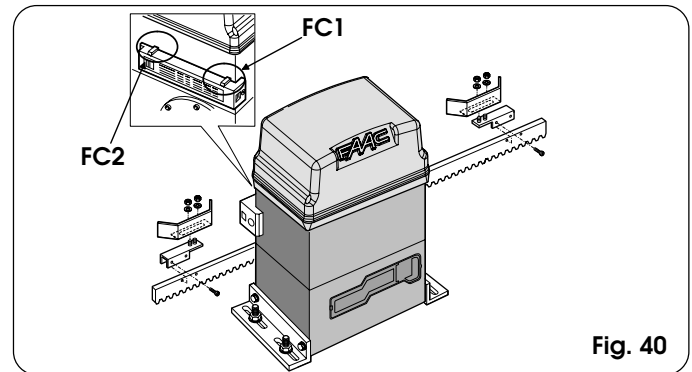

Fig. 40
- Assemble the limit-switch by centring the plate with respect to threaded pins of the support (Fig. 40).